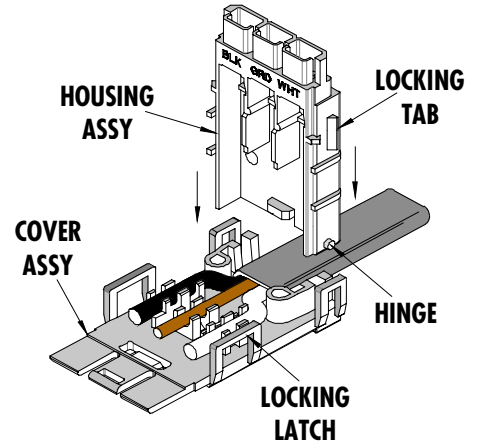
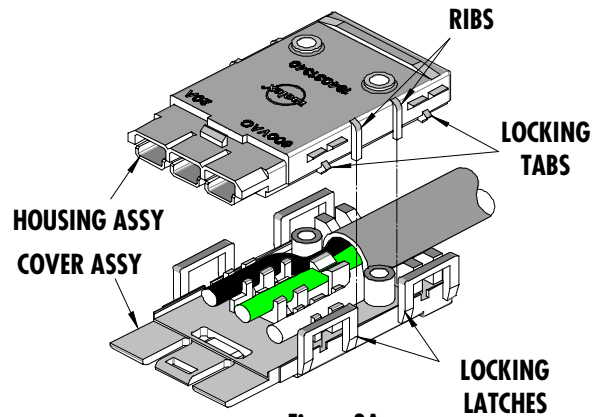
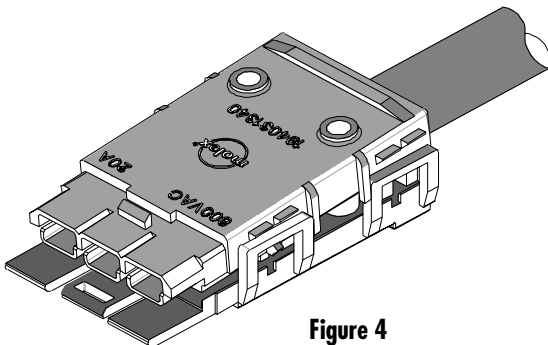

Figure 3B
Figure 3A
Figure 4
4. For connectors with four latches, position the housing assembly over the cover with the ribs in the housing aligned between the latches as shown in Figure 3A. Push the two halves together until the locking tabs engage as shown in Figure 4. For hinged connectors, position the hinge pins on the housing assembly into the mating holes in the cover as shown in figure 3B.